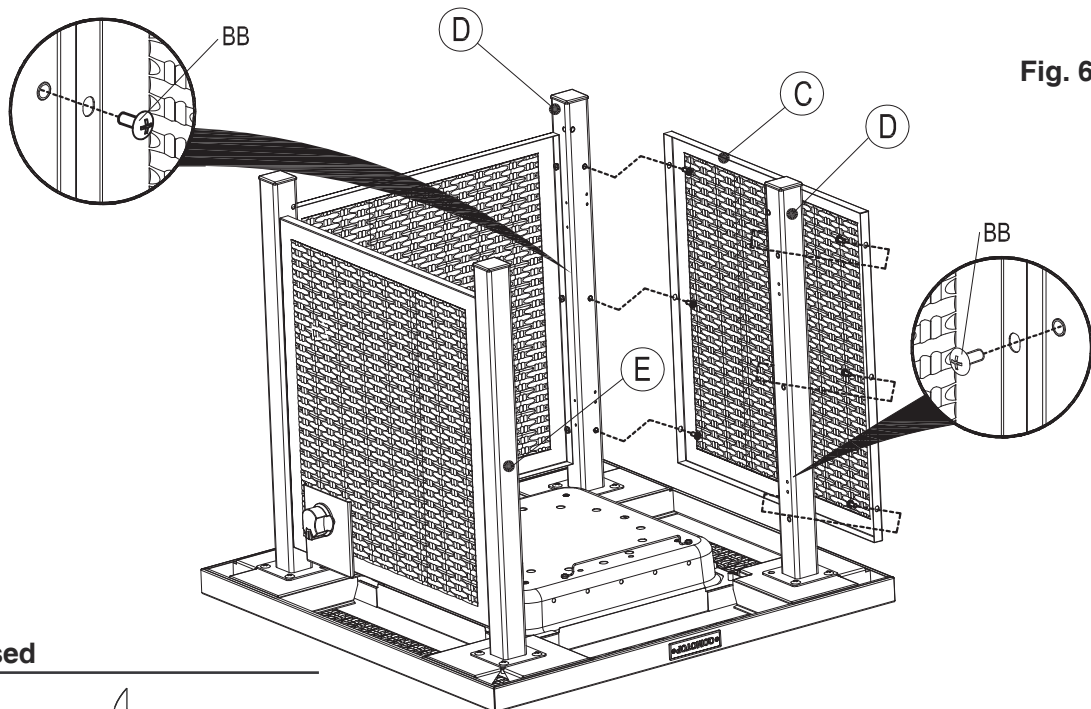

Fig. 6
Attach side panel B2 (C) to legs (D) with (6) M5x12 bolts (BB) as Fig. 6.